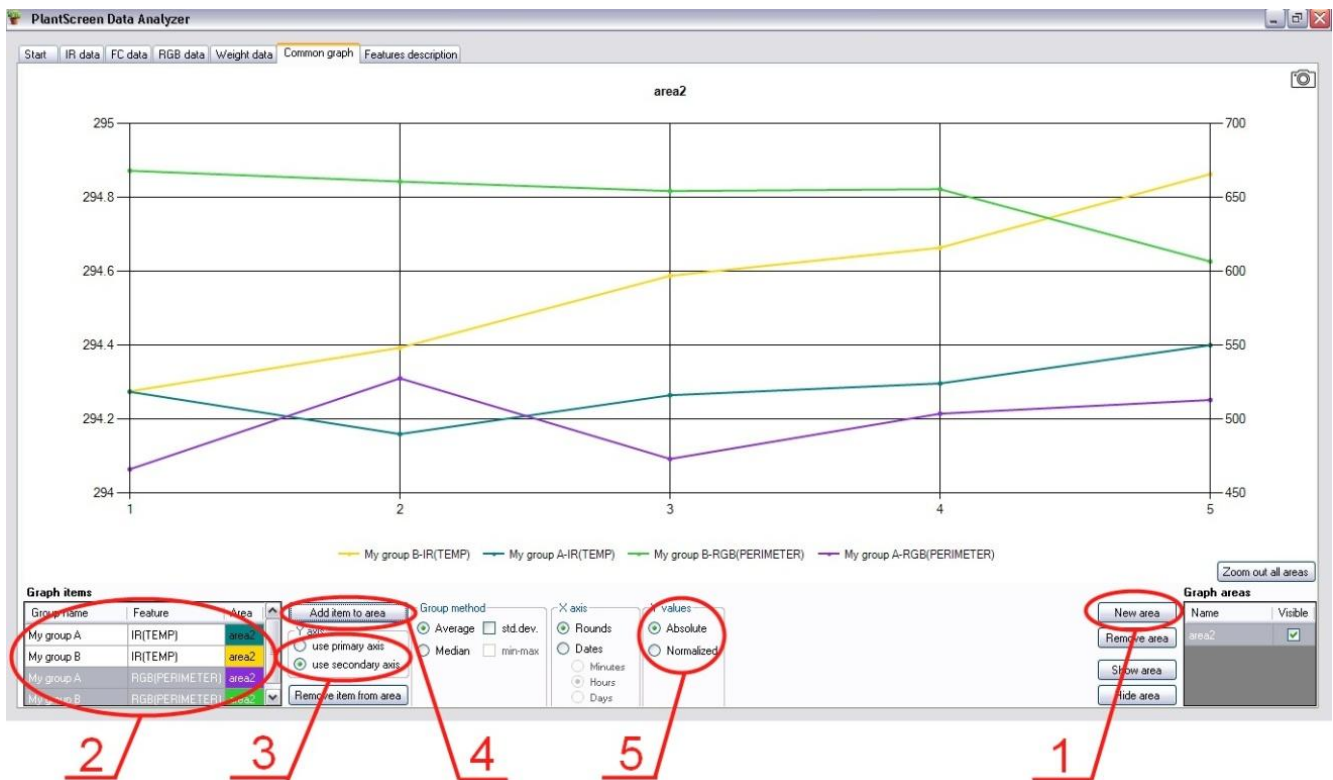

Fig. 20
- Go to the tab “Common graph” (Fig. 20)
- o Create new area (Fig. 20, 1)
- o Select items representing parameter Temperature (Fig. 20, 2)
- o Chose primary Y axis (Fig. 20, 3)
- o Add items to selected area (Fig. 20, 4)
- o Select items representing parameter Perimeter (Fig. 20, 2)
- o Chose secondary Y axis (Fig. 20, 3)
- o Change Y values type if necessary (Fig. 20, 5)